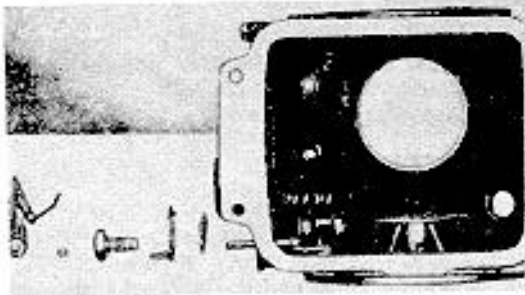

Figure 17
- b. Engines manufactured before serial No. 202305 have a short-angle arm and use bushing nut for a bearing and for shaft alignment. Figure 17.